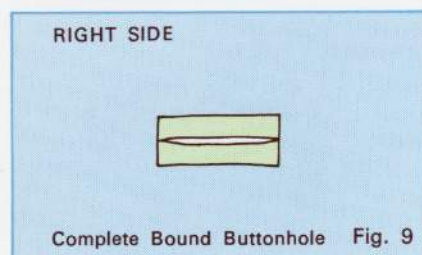

Fig. 9
7. Remove all bastings and press. (Fig. 9)